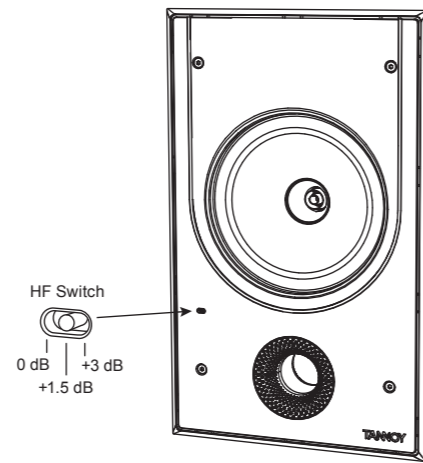

Fig. 4. HF Switch
2. The HF switch has three positions, with 0 dB being flat. Adjust as necessary to suit the room position and acoustic conditions (Fig. 4).